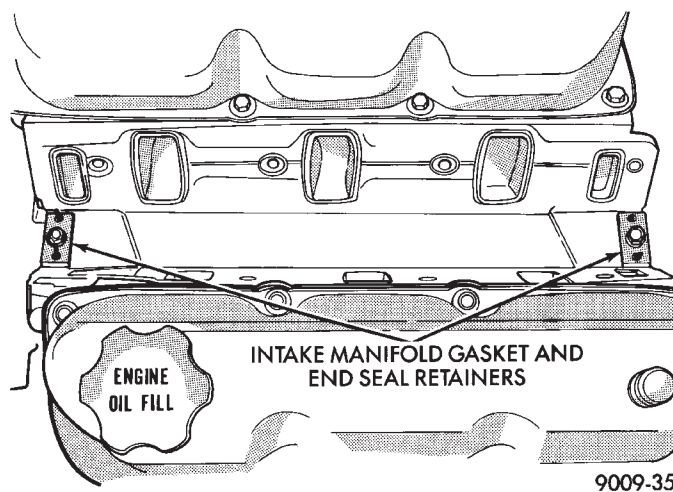

Fig. 14 Intake Manifold Gasket Retainers
(3) Carefully install the intake manifold gasket (Fig. 14). Torque end seal retainer screws to 12 N•m (105 in. lbs.).